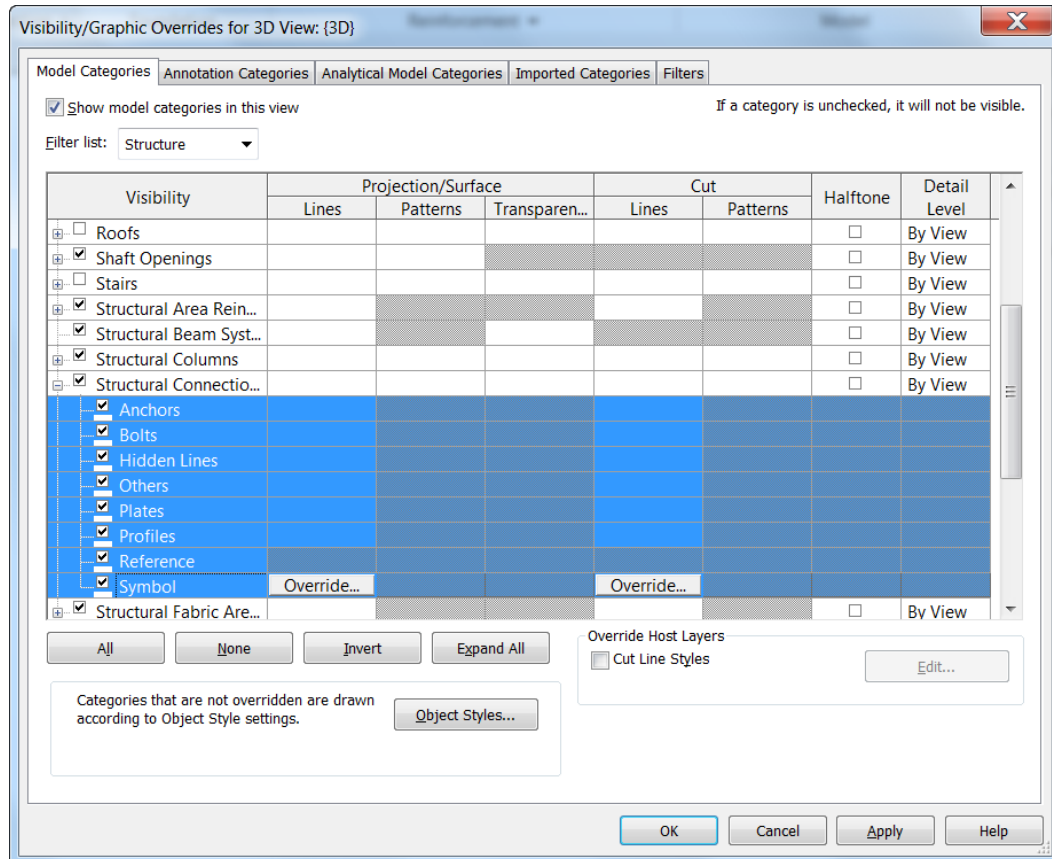

FIGURE 35: TURNING ON THE VISIBILITY OF THE CONNECTION ELEMENTS
2. Expand the **Structural Connections** category and select all the items in that category, as shown in Figure 35.